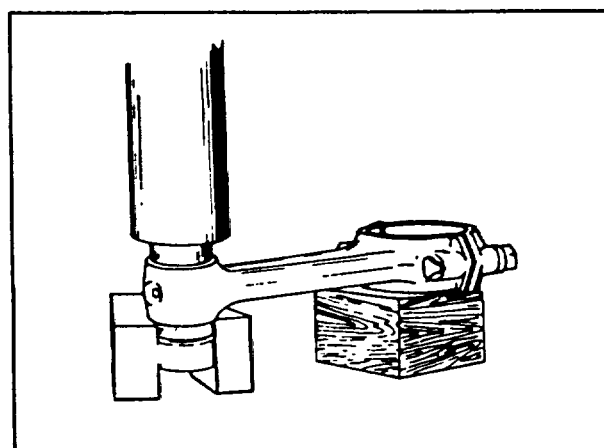

Figure 6-3. Pressing Out Old Piston Pin Bearing With New Bearing
**6-20. CONNECTING ROD BEARING.** Check fit of piston pin (18, figure 4-28) in connecting rod bearing (23). See figure 7-1 for specifications. If clearance is excessive, using an arbor press and suitable support press out worn bearing and press in new one in one operation using the new bearing as a driver (figure 6-3). Bearing must be honed on a honing machine to obtain proper fit.